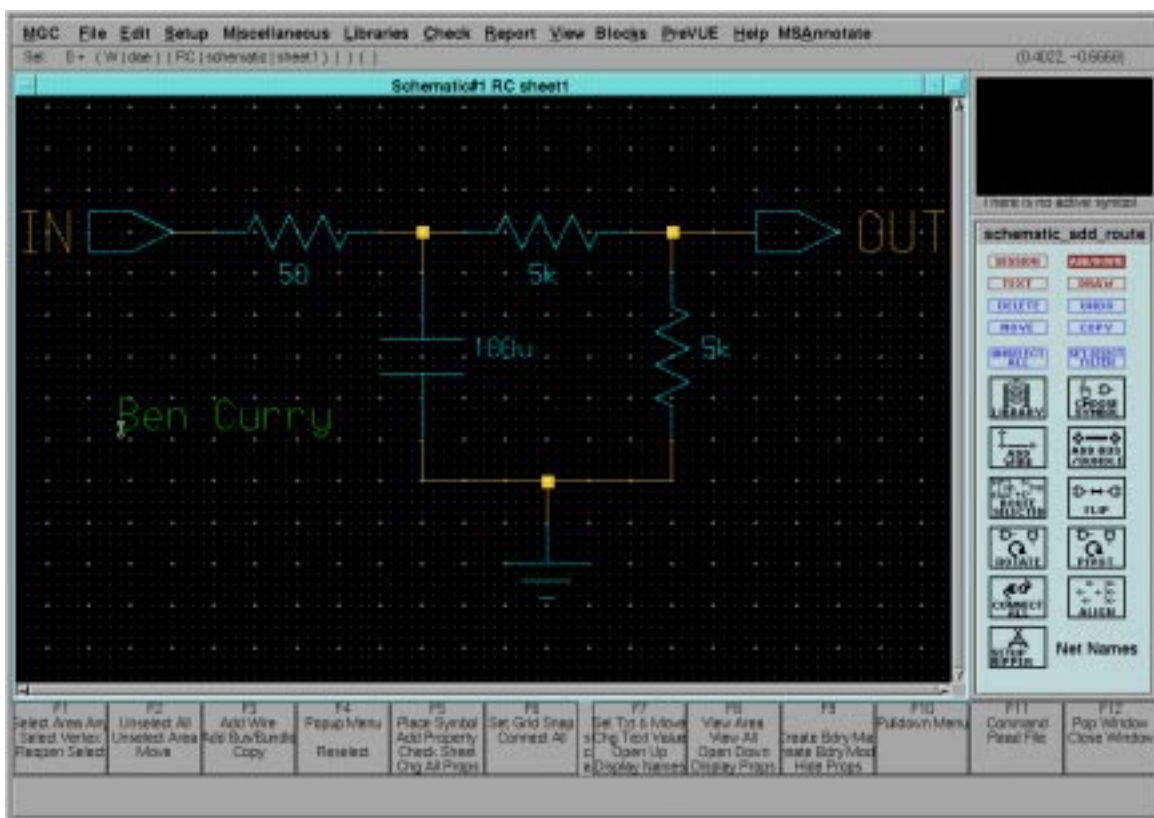

FIGURE 1. RC circuit
The design that you will enter is a simple RC circuit, shown in Figure 1. Use the following steps to enter the circuit:
11. Place the input port, labeled `IN` in Figure 1, by selecting the `PORTIN` icon. This is where you will input signals to the circuit. Also, place the output port, `OUT`, the same way. It is called `PRTOUT`. They will automatically be labeled `NET`; this label will be changed later.
13. Wire the circuit as shown in Figure 1. To start a wire, click once. To place a bend in the wire, click once again. To end a wire, double click. For a wire to be electrically connected to a component, it must start or end on the purple diamond on the terminal of the component. You can also start or end a wire on any part of an existing wire (e.g. between the horizontal resistors). To undo your last click, you can use the `Backspace` key. When you have finished wiring the circuit, click on `Cancel` in the prompt at the lower left, or use the `Esc` key, to quit the wiring tool.
14. Notice how Figure 1 has different values for the capacitance, resistances and the input and output port names. All of these names/values are referred to as "text properties" in Mentor. Let's change the values of those properties now. First, unselect everything by choosing `Edit⇒Unselect⇒All` from the menu bar. You could also use the `F2` key.
19. Now, click `CHANGE VALUE` in the `TEXT` palette. A prompt box will appear at the bottom of the screen. Notice how the property value it is displaying is also the only highlighted (white) object in the circuit. This is so you know which property you are changing. Simply type the correct new value in the `New Value` box. In the case of the left NET, you should change it to `IN`. In the case of the right NET, you should change it to `OUT`. Press the return key after you have typed in the new name and the value changes. When the last value is changed, the prompt disappears. The new resistor values are 50, 5k and 5k, as in Figure 1. The new capacitor value will be 100u.